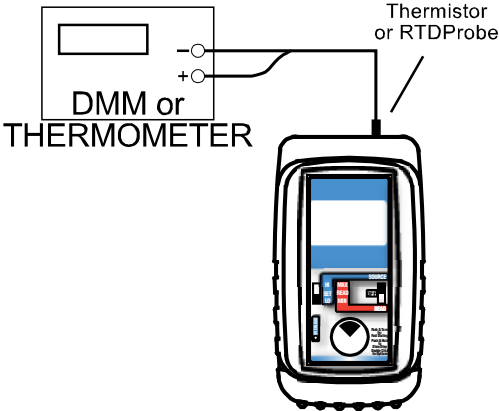

FIGURE 3 (Cold Junction Cal)
1. Place a thermistor or RTD probe as close as possible thermocouple jack (See Figure 3).